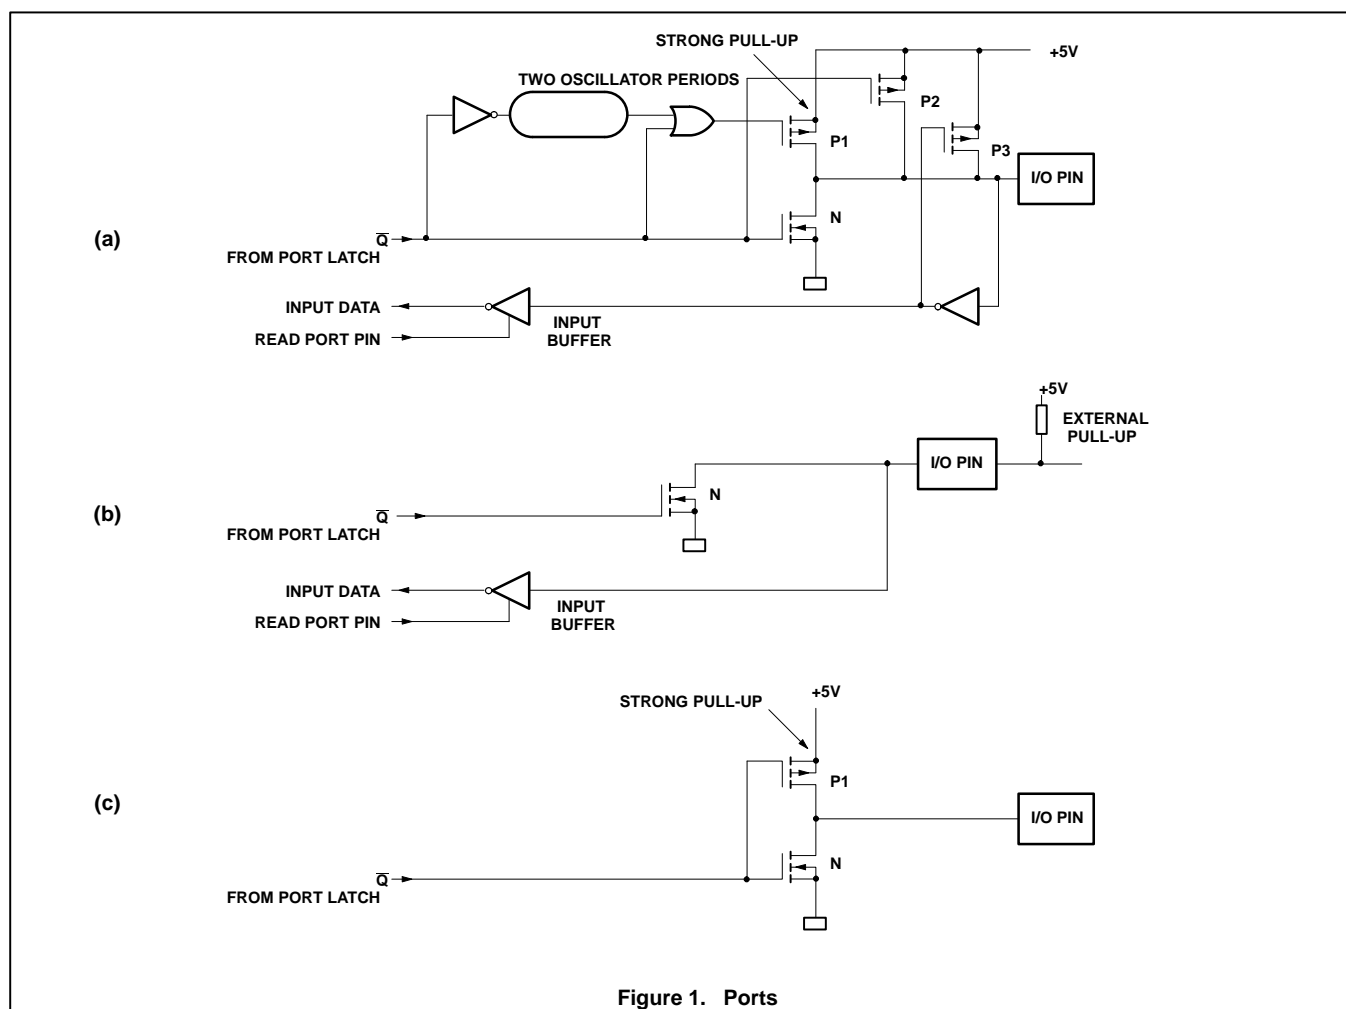

Figure 1. Ports
The pins of port 1 (not P1.6/SCL or P1.7/SDA), port 2, and port 3 may be individually configured with one of the following port options (see Figure 1):
- Option 1: **Standard Port**—quasi-bidirectional I/O with pull-up. The strong booster pull-up p1 is turned on for two oscillator periods after a 0-to-1 transition in the port latch. See Figure 1(a).
- Option 2: **Open Drain**—quasi-bidirectional I/O with n-channel open drain output. Use as an output requires the connection of an external pull-up resistor. See Figure 1(b).
- Option 3: **Push-Pull**—output with drive capability in both polarities. Under this option, pins can only be used as outputs. See Figure 1(c).
- Option 2: Open drain—quasi-bidirectional I/O with n-channel open drain output. Use as an output requires the connection of an external pull-up resistor. See Figure 1(c).